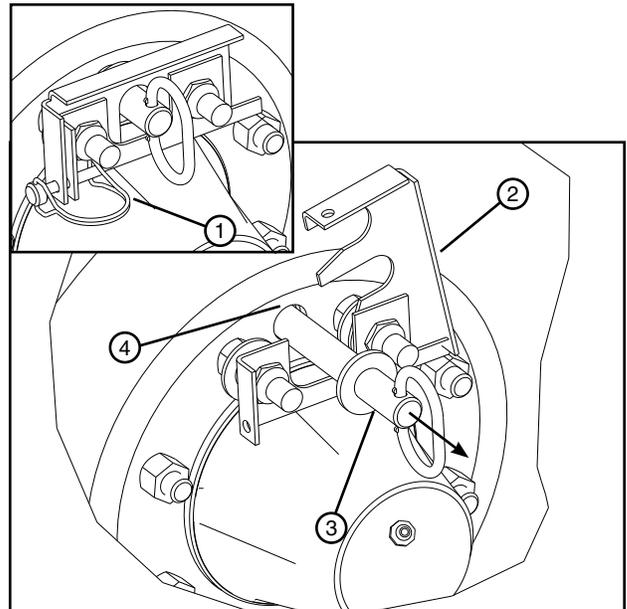

Figure 33-2 1. Lynch Pin 3. Torque Pin
5. Remove lynch pin from retainer clip, then open retainer clip and pull the torque pin from axle torque arm behind gearbox hub and hub torque pin receiver. See figure 33-2.